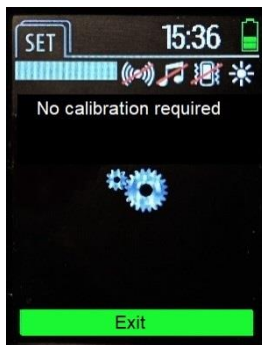

Figure 31 – "No calibration required"
- "**No calibration required**" - which means that the device correctly identified all the given photopeaks of the calibration sample and found no need for compensating the measuring path (Fig. 31).